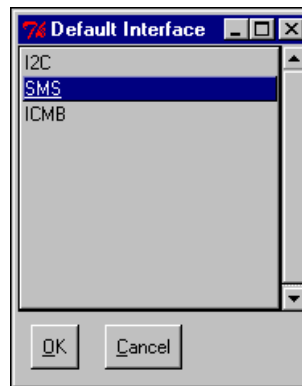

Figure 3-17. Default Interface Dialog Box
- **Default Interface ...**—Presents a dialog box for selecting the default target interface. This dialog lists all open interfaces. Clicking on an item in the list selects that interface. Clicking OK makes the selected interface the default interface. The result appears in the status bar on the main window. Figure 3-17 shows the Default Interface dialog: